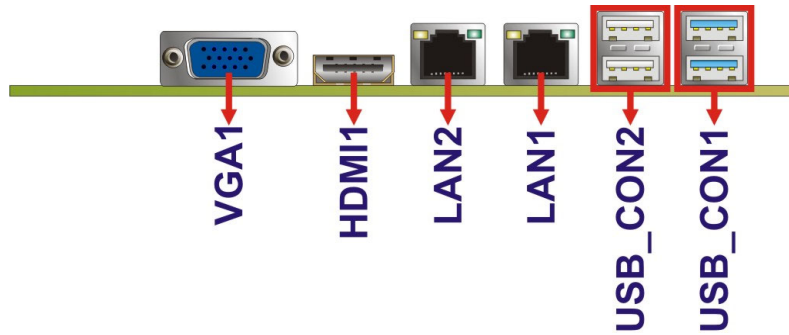

Figure 3-23: External Peripheral Interface Connector
- CN Location:** See **Figure 3-23**